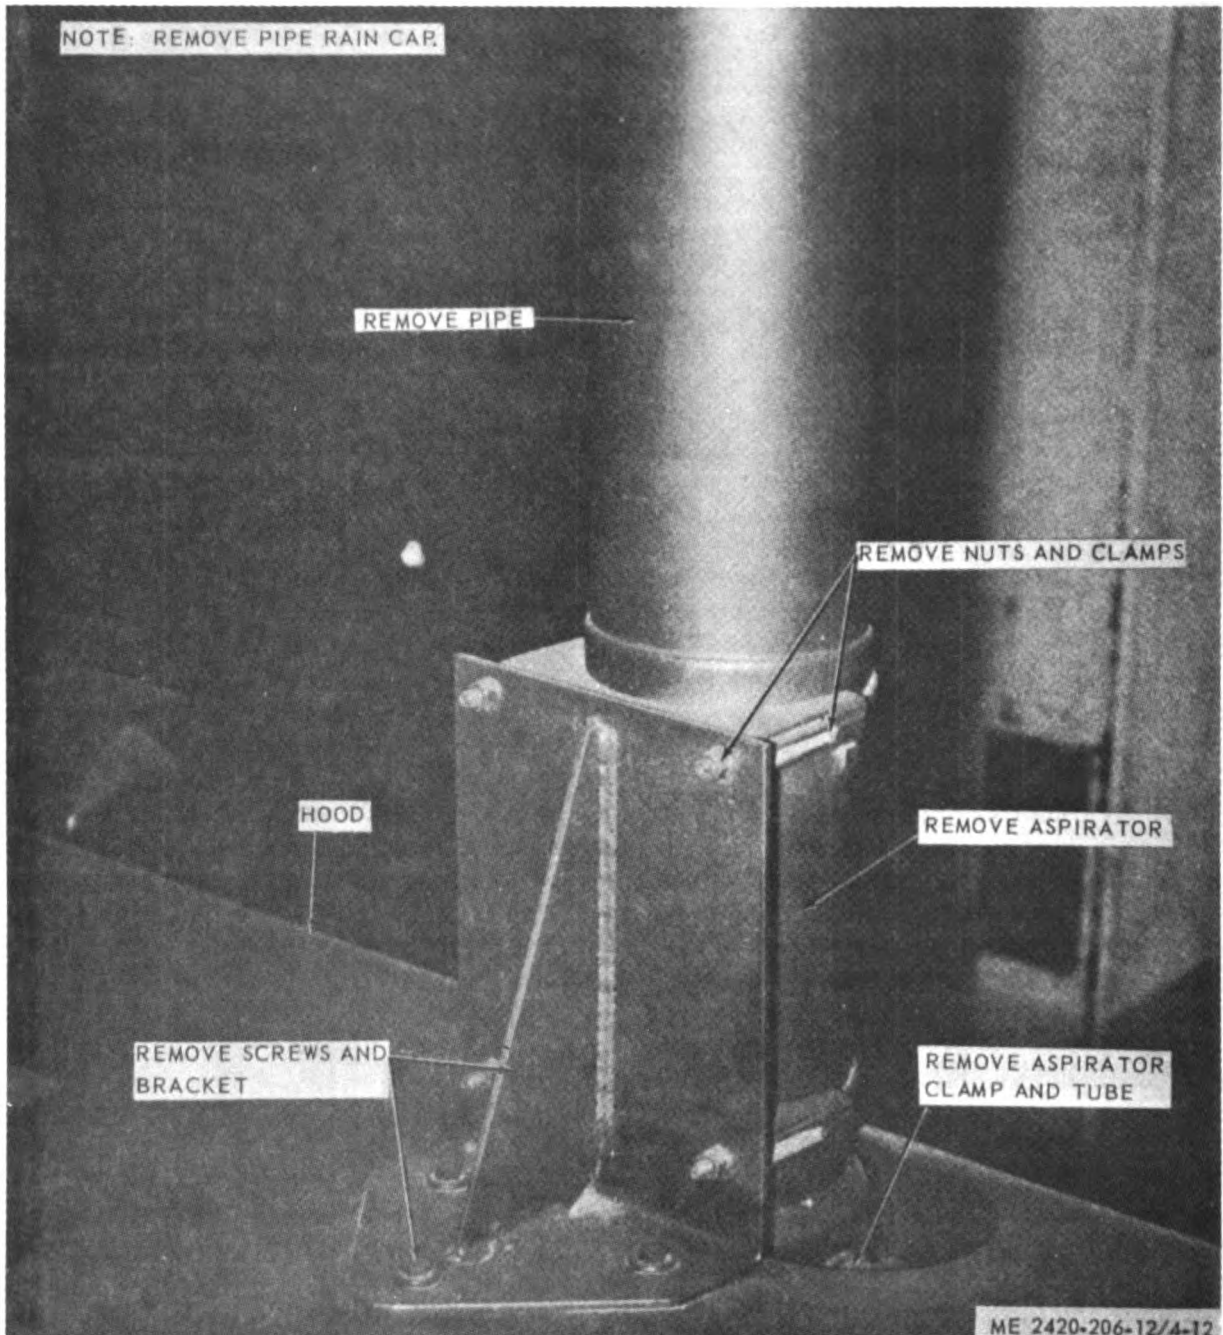

Figure 4-12. Aspirator and exhaust pipe, removal and installation.
b. Removal. Refer to figure 4-12 and:
- (1) Remove exhaust pipe.
- (2) Remove aspirator.
(1) Clean parts and dry thoroughly.
(2) Inspect parts for cracks, breaks and other damage. Replace defective parts as necessary.
d. Installation. Refer to figure 4-12 and install aspirator and exhaust pipe in reverse order of removal.